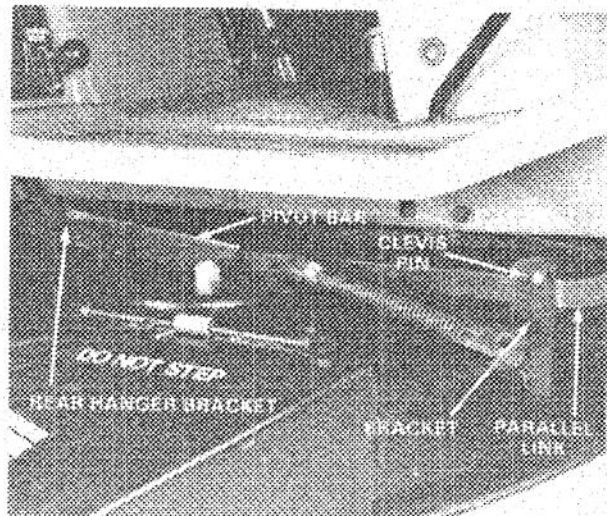

Figure 37
3. Insure the height-of-cut lever is in the lowest height setting. Position the cutting unit so the parallel links bisect the front brackets on each side and insert the clevis pins into the bracket holes from the inside toward the outside (Fig. 37).
4. Slip the cutting unit drive belt around the spindle drive pulley, then lift the rear of the cutting unit and position the rear hanger brackets so they just rest over the top of the pins extending out from the pivot bar (Fig. 37). Insure belt is installed on front engine pulley.